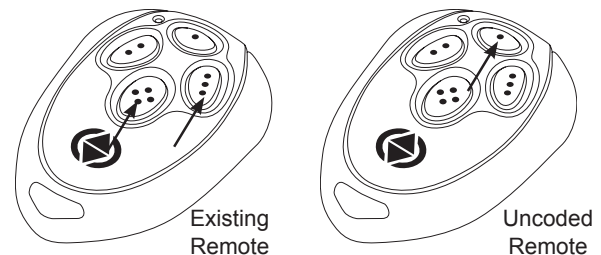

Fig. 10
- 2 Press any button on new transmitter twice (Fig. 10). The opener will beep and light will flash twice to confirm code learned. Test new transmitter.